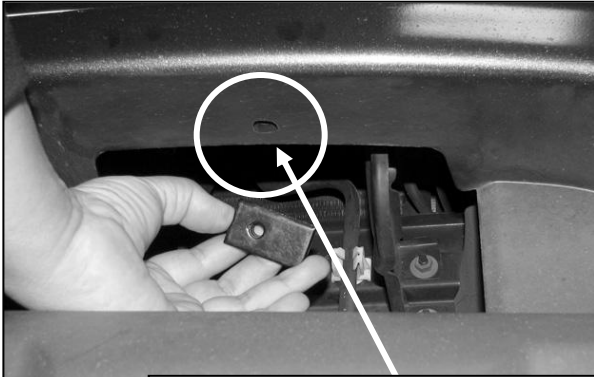

Fig 4
5. Locate and remove the two plastic clips located in the grille opening. Insert (1) 8mm x 25mm Nut plate into the opening and line up the threaded hole with the hole in the grille opening, **(Figure 4)**.